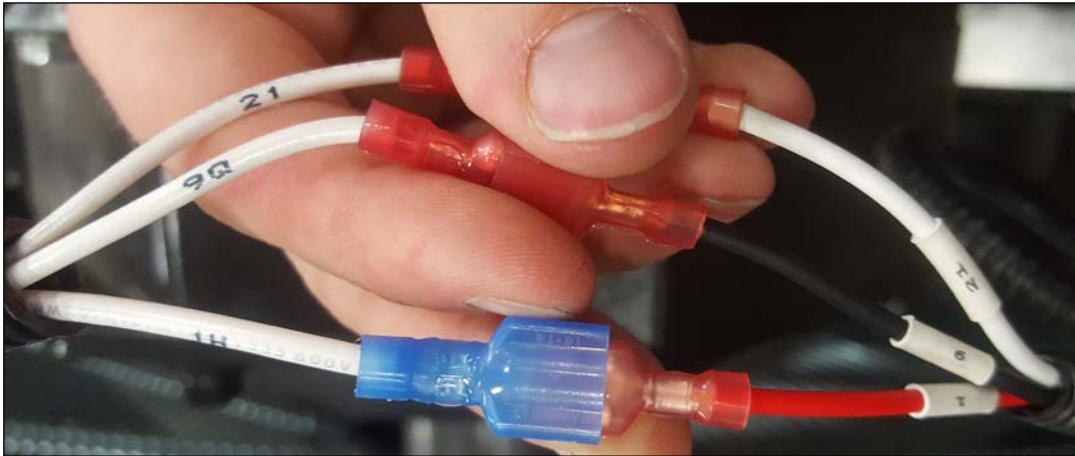

Figure 4
- If using X00A69900008, use the following instructions (See Figure 4):